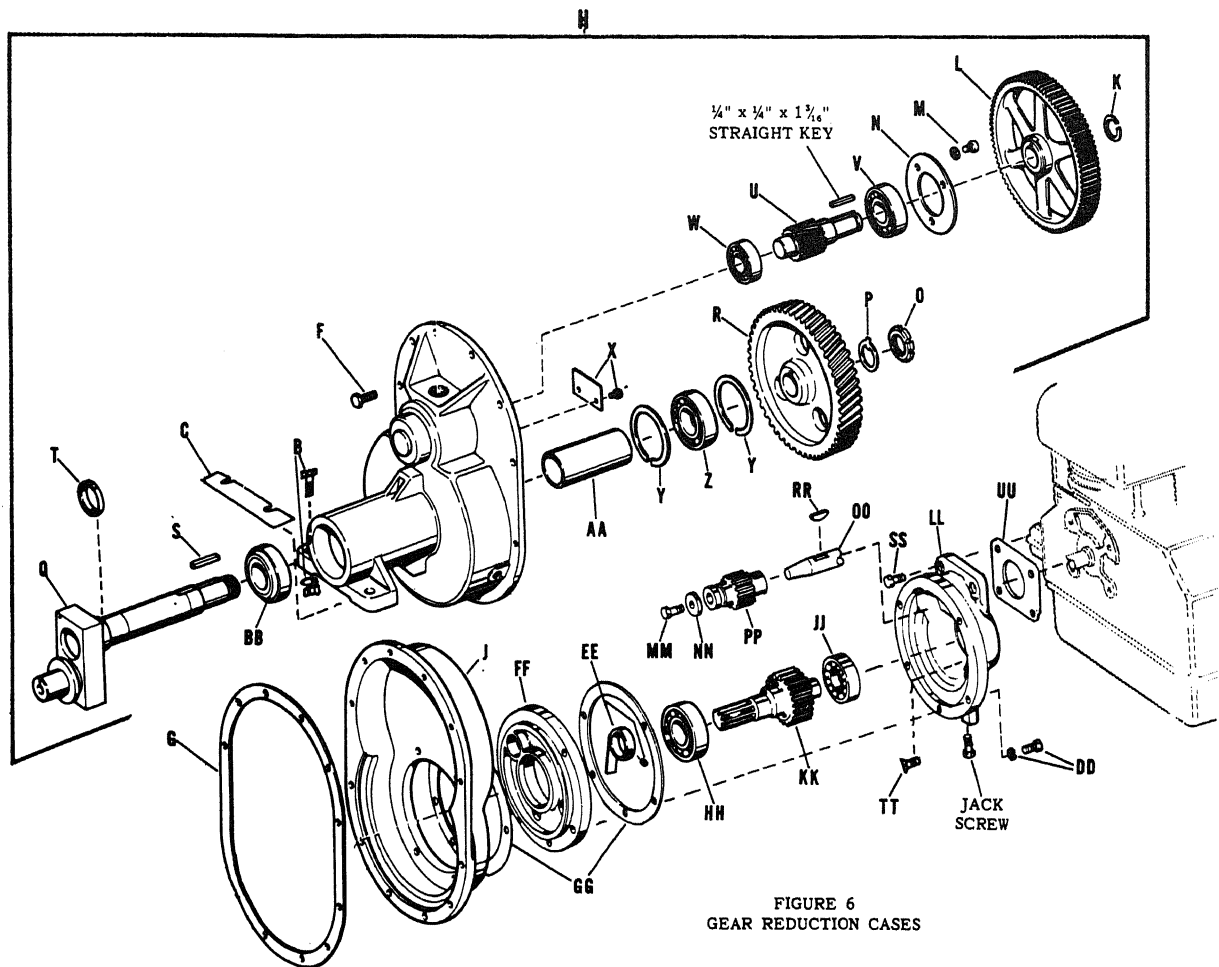
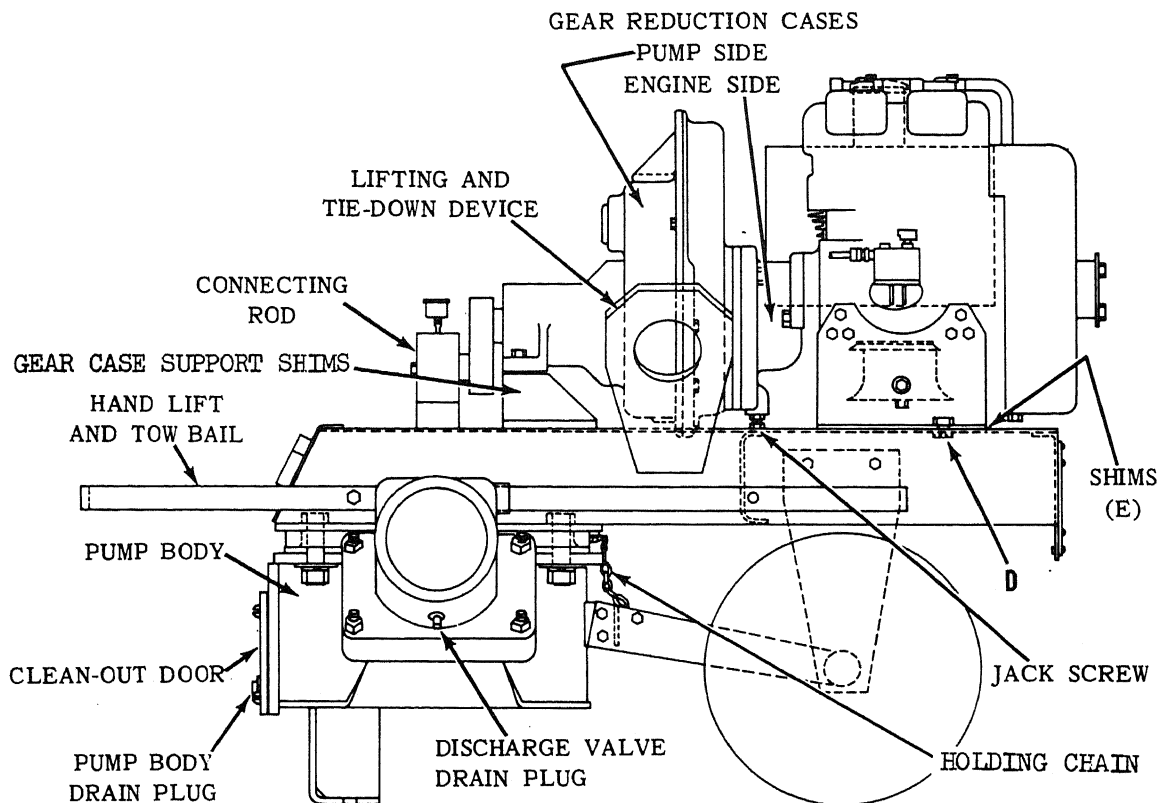

FIGURE 6
FIGURE 7
22. Gearcase (pump side) Disassembly and Assembly – (Ref. Fig. 6 and 7)
- C. Ref. Fig. 6. Remove the two ½" bolts, lock washers and nuts (B) holding gearcase to the gearcase support. Ref. Fig. 7. Remove two bolts with lock washers and nuts (D), Fig. 7, holding engine to frame. Save shims (C) Fig. 6, and shims (E) Fig. 7 for reuse.
- E. Twelve ⅝" cap screws (F) holding the cover halves together. Remove these bolts and pull reduction case assembly (H) from intermediate section (J). Gasket (G) should be replaced new in reassembly.
- F. Pry out snap ring (K) and pull spur gear (L) off pinion shaft (U). The ¼" straight key may be saved for reuse if not damaged.
- G. Remove three ⅝" socket head cap screws with lock washers (M) and retainer (N).
- H. Straighten ear of lock washer (P). Remove lock nut (O) and washer (P). Pull output shaft crank arm (Q) from housing (A). Retain gear (R) from falling. Remove key (S) and manipulate gear (R) from housing. Remove spacer (T).
- I. Pull pinion shaft (U) with bearings (V) and (W) from housing. Bearings (V) and (W) may be removed from pinion shaft.
- J. Remove the two round head screws and oil trap (X), and snap ring (Y).
- K. Bearing (Z) may be pulled from bore of housing. Pull out spacer (AA) and pull out bearing (BB) from housing, and inner snap ring (Y).
23. Gearcase (engine side) Disassembly and Assembly (Ref. Fig. 6)
- A. Remove the ¼" socket set screw and oil slinger (EE). Note position of oil slinger for reassembly to prevent damage to oil slinger.
- B. Remove five ⅝" cap screws with lock washers (DD). Housing (J), bearing retainer (FF), gaskets (GG), bearings (HH) and (JJ) with pinion shaft (KK) may now be pulled from housing (LL).
- C. Pull bearings (HH) and (JJ) off pinion shaft (KK).
D. Remove cap screw (MM) with lock washer and special washer (NN) from engine shaft (OO). Pinion (PP) is grooved for removal with a puller. Remove pinion. Remove woodruff key (RR) from shaft (OO).
E. Remove three cap screws (SS) and internal flat head cap screws (TT) from housing. Pull housing (LL) with gasket (UU) from engine housing.
Reference for Fig. 6
#### 25. Lifting and Tie Down (Ref. Fig. 7)